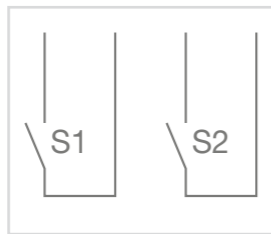

Figure 3: Connection diagram
- Install lower housing (8) in correct position.
- Connect connection cable (figure 3).
- Insert series push-button module (7) into housing bottom part (8) until fastening brackets engage.
- Mount sealing piece (5) and upper housing (6) on lower housing (8). To do this, fasten quick-release bayonet connectors in lower housing using a screwdriver and applying a 1/4 turn clockwise.
- Mount rocker (4) onto the series push-button module (7).
- Route connection cable out of the wall box (10) and connect (figure 3)
- Place series push-button module (7) onto flush-mounted frame (9) until fastening brackets engage.
- Fasten flush-mounted frame (9) in the correct position on wall box (10) using fitting screws.
- Mount sealing piece (5) on flush-mounted frame. To do this, fasten quick-release bayonet connectors in flush-mounted frame using a screwdriver and applying a 1/4 turn clockwise.
- Mount rocker (4) onto the series push-button module.